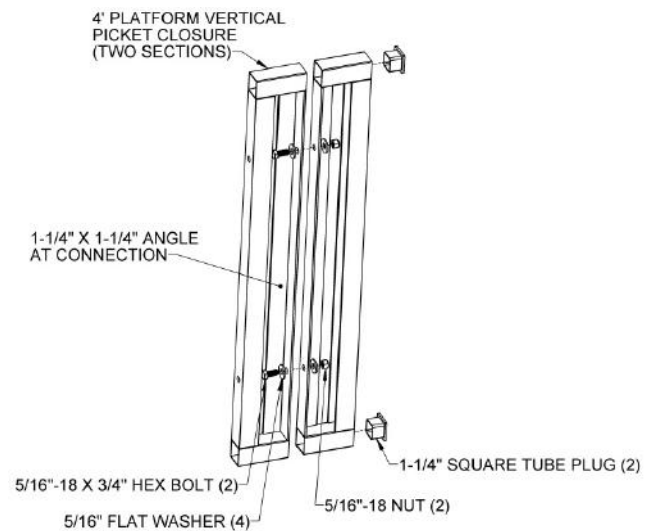

FIG. 5.14
The 4' closure includes angles (rather than channels) on one side to allow access to the assembly fasteners. Always bolt the 4' closure together using the side with the angles and attach the side with the channel to the platform post (FIG. 5.14).
- 5.6.9. Cut a 1 1/2" diameter round tubes and the 1-1/2" x 2" curb to the measured gap length less 1/8" to account for the threaded inserts which will be installed after cutting (FIG. 5.14).